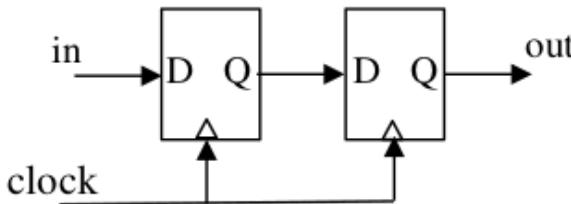

Fig. 5.5
5. Consider the sequential circuit shown in Fig. 5.5, where both flip-flops used are positive edge-triggered D flip-flops. The number of states in the state transition diagram of this circuit that have a transition back to the same state on some value of “in” is \_\_\_\_\_.